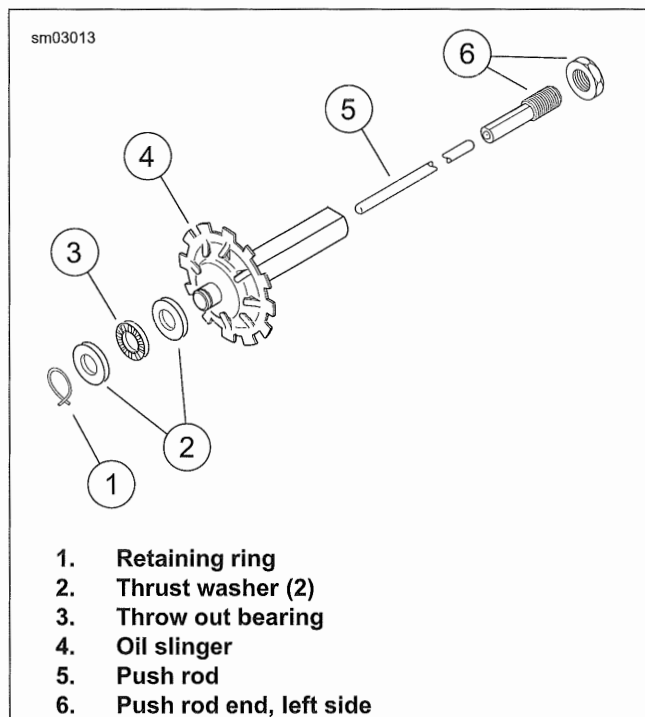

Figure 5-39. Push Rod Assembly
1. See Figure 5-39. Remove oil slinger assembly and pushrod from main shaft.
- See Figure 5-39. Install pushrod assembly (2-5) in mainshaft hole.
- Install **new** retaining ring (1) if removed.